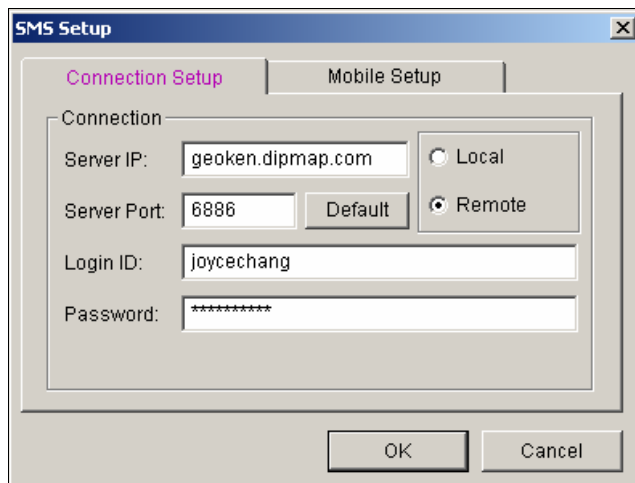

Figure 10-11 SMS Setup- Connection Setup
2. Type a login ID and password. They will be the ID and password for the client to log in the SMS Server (Figure 10-11).
2. Click the **Account Setting** button. This displays the SMS Setup dialog box (Figure 10-11).